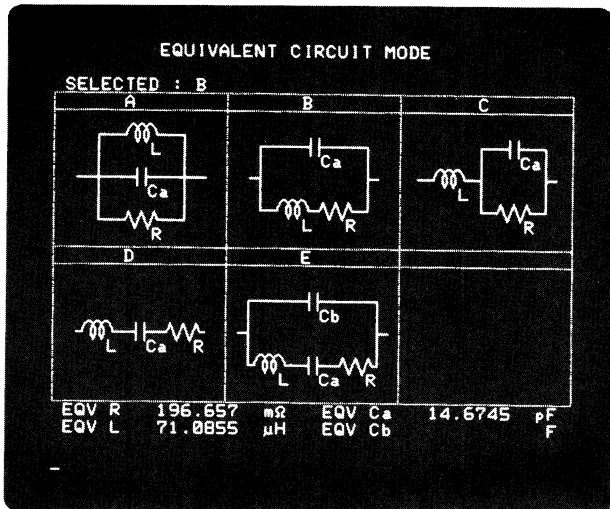

Figure 5. Calculated Equivalent Circuit Constants
To obtain impedance characteristics over a wide frequency range, including the component self-resonant frequency, it is necessary to use equivalent circuits having at least three components and to measure impedance frequency characteristics across a broad frequency range to determine constants. The 4194A is equipped with a Multi-parameter Approximation and Simulation function that, once given measurement values for impedance frequency characteristics, automatically calculates equivalent circuits (similar to those shown in Figure 5 (A ~ E)) and simulates frequency characteristics to obtain corresponding parameters. The procedure for obtaining multi-parameter equivalent circuit analysis is as follows.
3. Press the **CALC EQV PARA** softkey to have the equivalent circuit calculated and the L, C and R values displayed. (See Figure 5.)